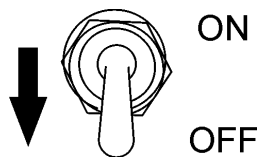

Figure 21. Operation Switch (OFF)
4. To shut-down the engine, place the generator's operation switch (Figure 21) in the **OFF** position.